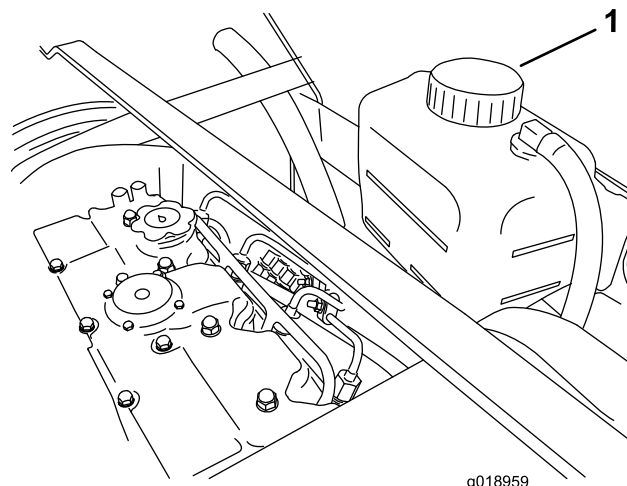

Figure 36
The coolant level should be up to upper line mark on the expansion tank (Figure 36).
1. Remove the coolant expansion tank fill cap (Figure 36).